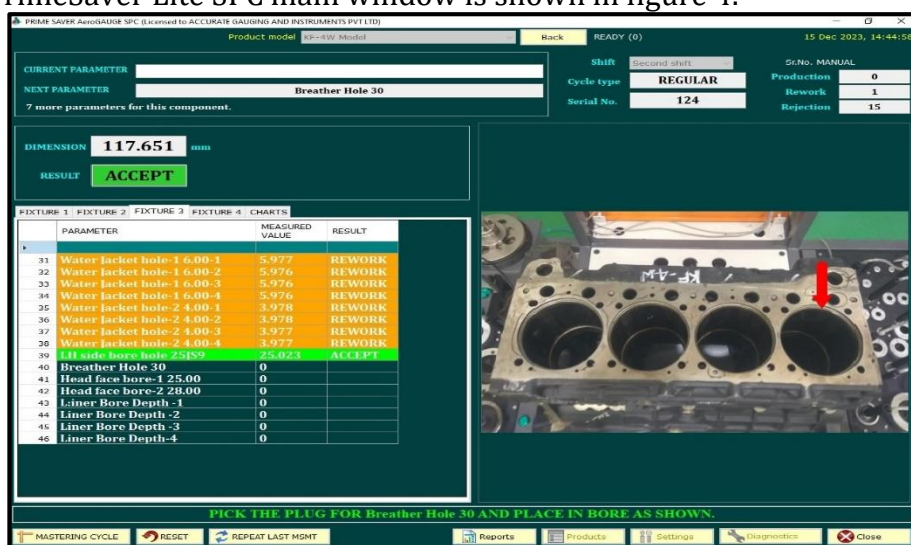

Figure 4
The PrimeSaver Lite SPC main window is shown in figure 4.
- 3.1.1 Product model:** Select the product model on the main page, and the product image will appear on the screen as shown in figure 4.